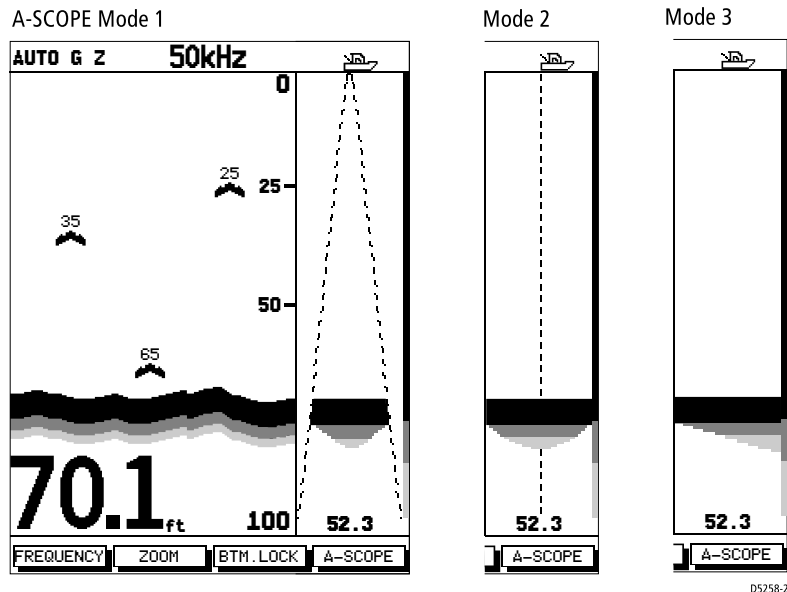

Figure 3-10: The Three Modes of A-Scope
2. Press the A-SCOPE MODE soft key to select one of the three modes for A-Scope, as demonstrated in *Figure 3-10*: